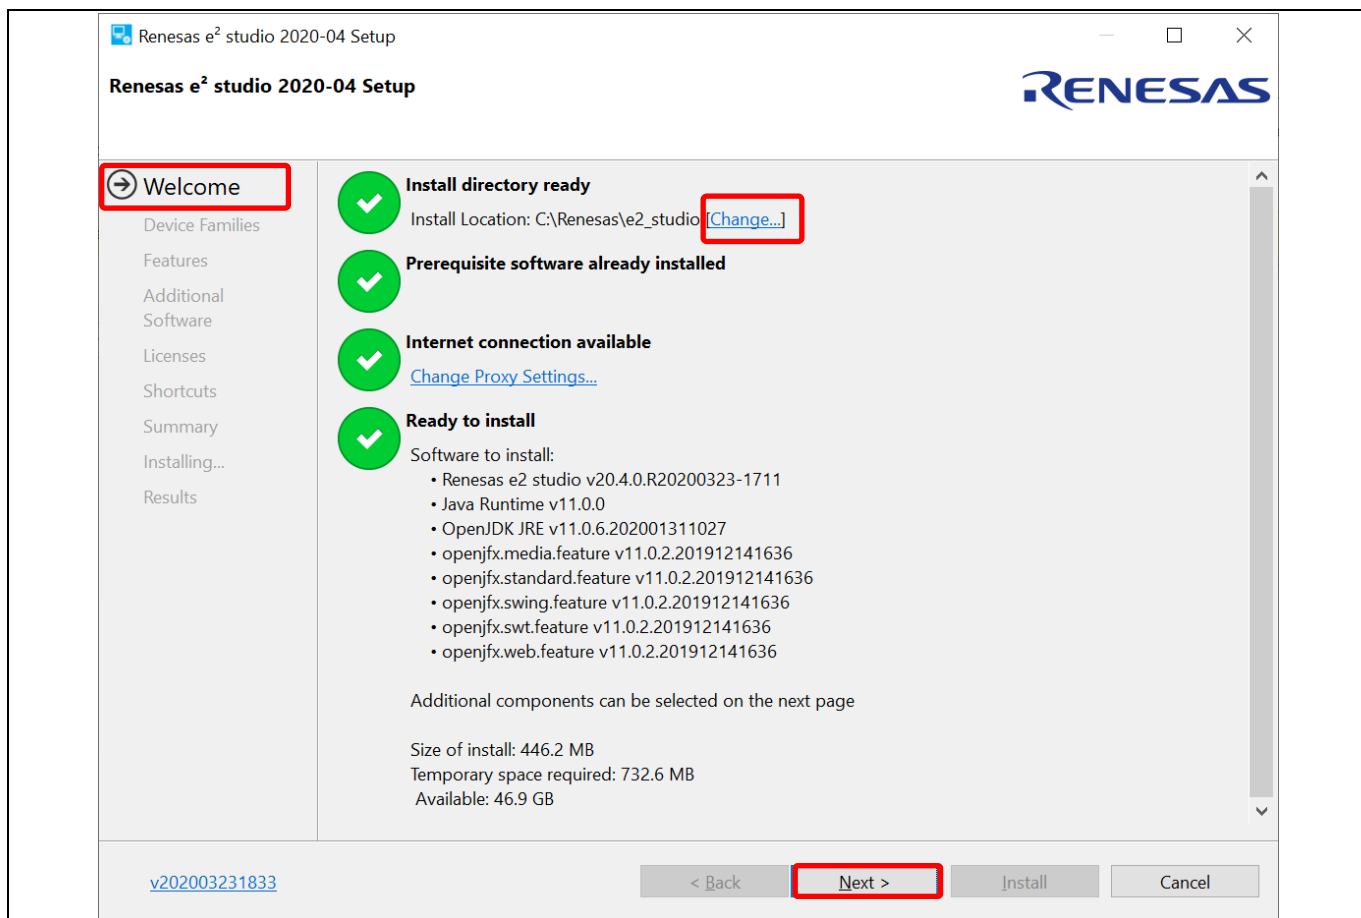

Figure 2-2 Installation of 64-bit e² studio – Welcome page
2. By default, all the software components are selected in the [Available Updates] panel. This allows user to update all to the latest version. (An example is shown in Figure 2-2). Click the [Next] button to proceed.